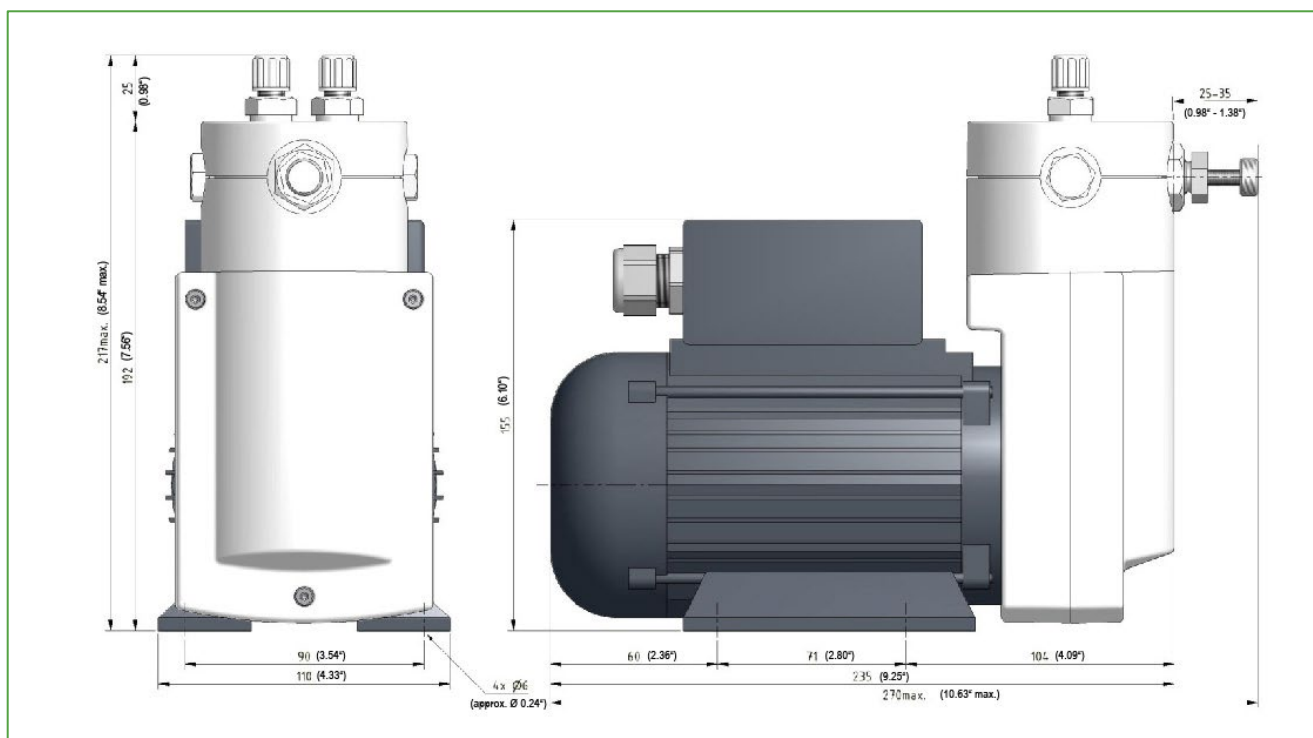

Figure 4 Dimensions MP-F.../R
- Mount the pump through the four 6 mm holes located in the base of the pump. If vibrations are likely to occur at this location, use vibration control air springs to de-couple the vibration source. Screw the pump tightly to the ground. For dimensions, please see Figure 4. For sufficient supply of cooling air, the pump needs to be mounted at least 25 mm apart from the wall.